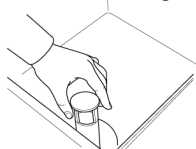

Fig.41
- 1- Open the door and remove the water flow device and close the door. (Fig.41)